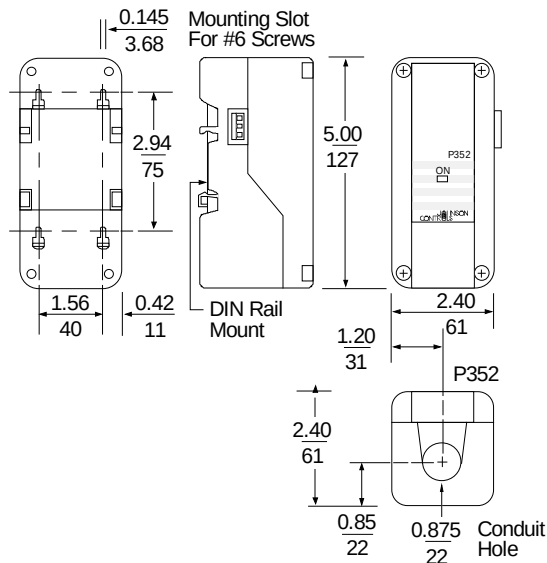

Figure 2: P352 Dimensions in./mm
- Connect a digital voltmeter (DVM) between the "24V" (+) and "COM" (-) terminals located on the control's left-side terminal block (Figure 2).